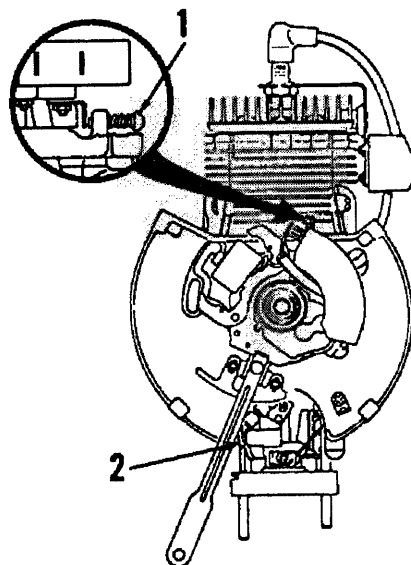

Fig. E2-13—The stop (ground) screw (1) should be adjusted as described in text to stop motor after lever is past shroud bracket (2).
After the high speed stop and throttle cam are accurately adjusted, move the speed control lever clockwise until lever is past the shroud bracket (2—Fig. E2-13). Turn the ground (stop) screw (1) in until it contacts the stop plate on stator. The ignition will be grounded and motor will stop when the stop plate touches screw (1).